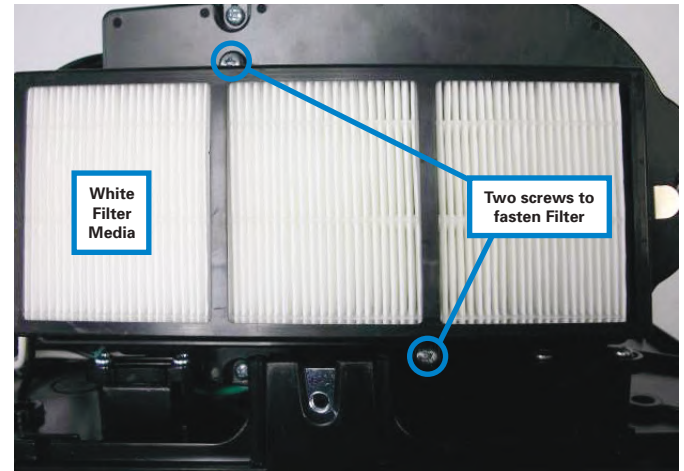
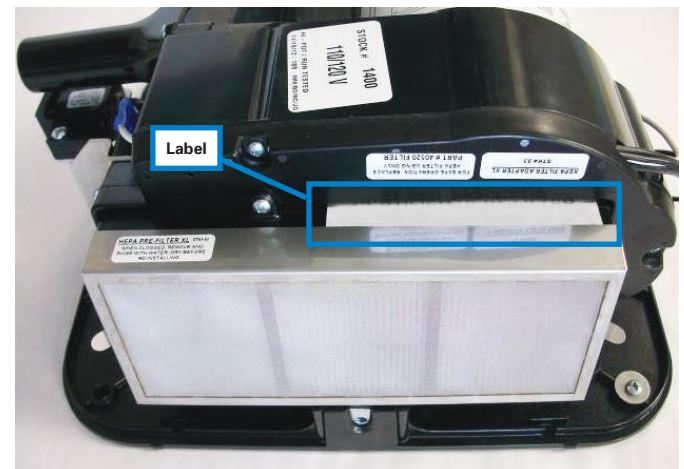

Figure 17
Figure 18
13. Take the HEPA Filter (B) out of the clear sealed plastic wrap and insert the Filter into the Filter Adapter. **DO NOT touch the white filter media, as this can result in reduced performance and efficiency.** The side with the foam gasket around the perimeter of the filter should be placed into the Filter Adapter first. Position the filter so that the label is facing away from the wall as shown in **Figure 18**. Fasten the filter to the Filter Adapter with the two screws previously removed in Step 2 (**Figure 17**).